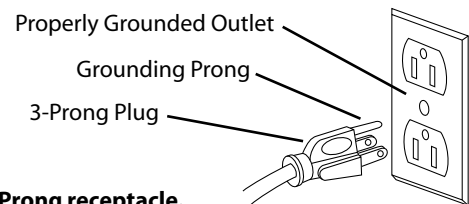

Figure 2 – 3-Prong receptacle.
- This unit is equipped with an approved 3-conductor cord rated at 300V and a 3-prong, grounding type plug (See Figure 2) for your protection against shock hazards.
- Grounding plug should be plugged directly into a properly installed and grounded 3-prong grounding-type receptacle (See Figure 2).